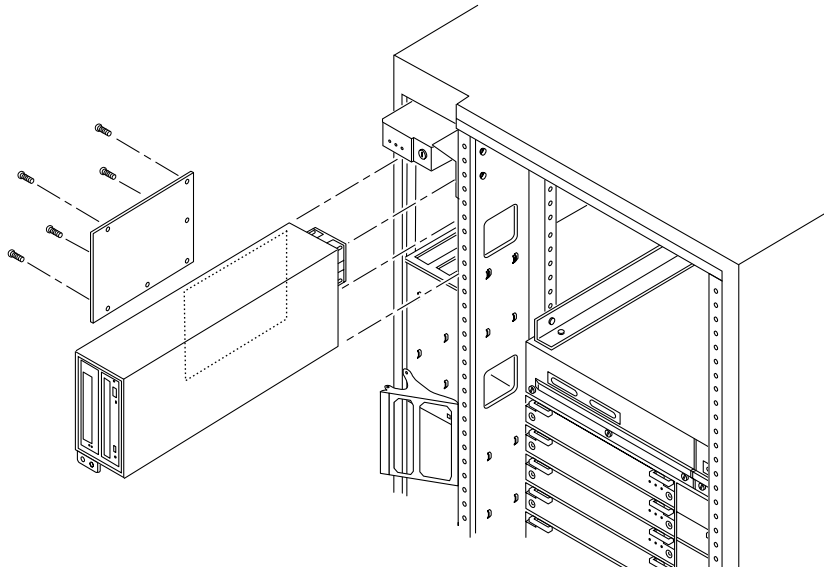

FIGURE 1-17 New SCSI Tray with Access Panel
3. Remove the seven screws securing the access panel cover to the new SCSI tray (FIGURE 1-17).